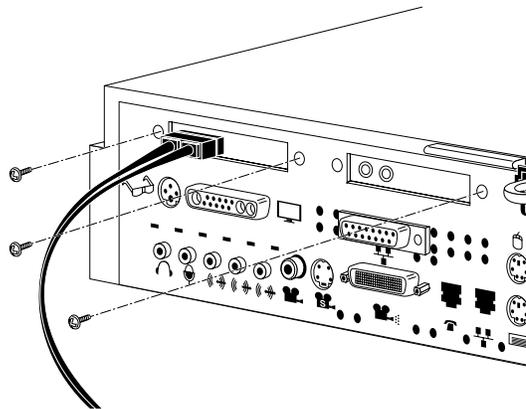

Figure 1-10 Inserting the screws through the rear of the workstation
- Insert and tighten the remaining three screws provided with the board through the rear of the workstation, in the locations shown in Figure 1-10.